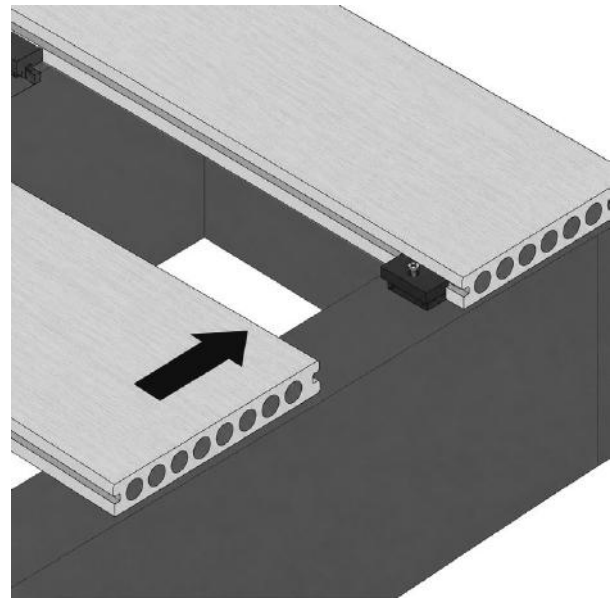

FIG. 5 - NEXT BOARD SLID ONTO THE HIDDEN CLIP
- 02 Place the next board into position against the hidden clips (fig. 5): slightly raise the outer edge of the board being installed and slide it onto the hidden clip; ensure the decking board edge contacts the spacer tab; lightly tap into position if required.